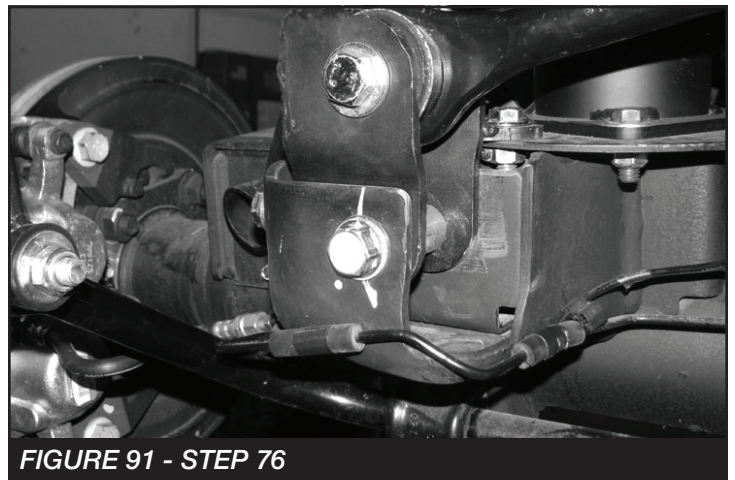

FIGURE 91 - STEP 76
76. Locate the supplied 9/16"-18x 3-1/2" bolt, nut and washers and install the rear track bar into the new location. Torque to 184 ft-lbs. **SEE FIGURE 91**